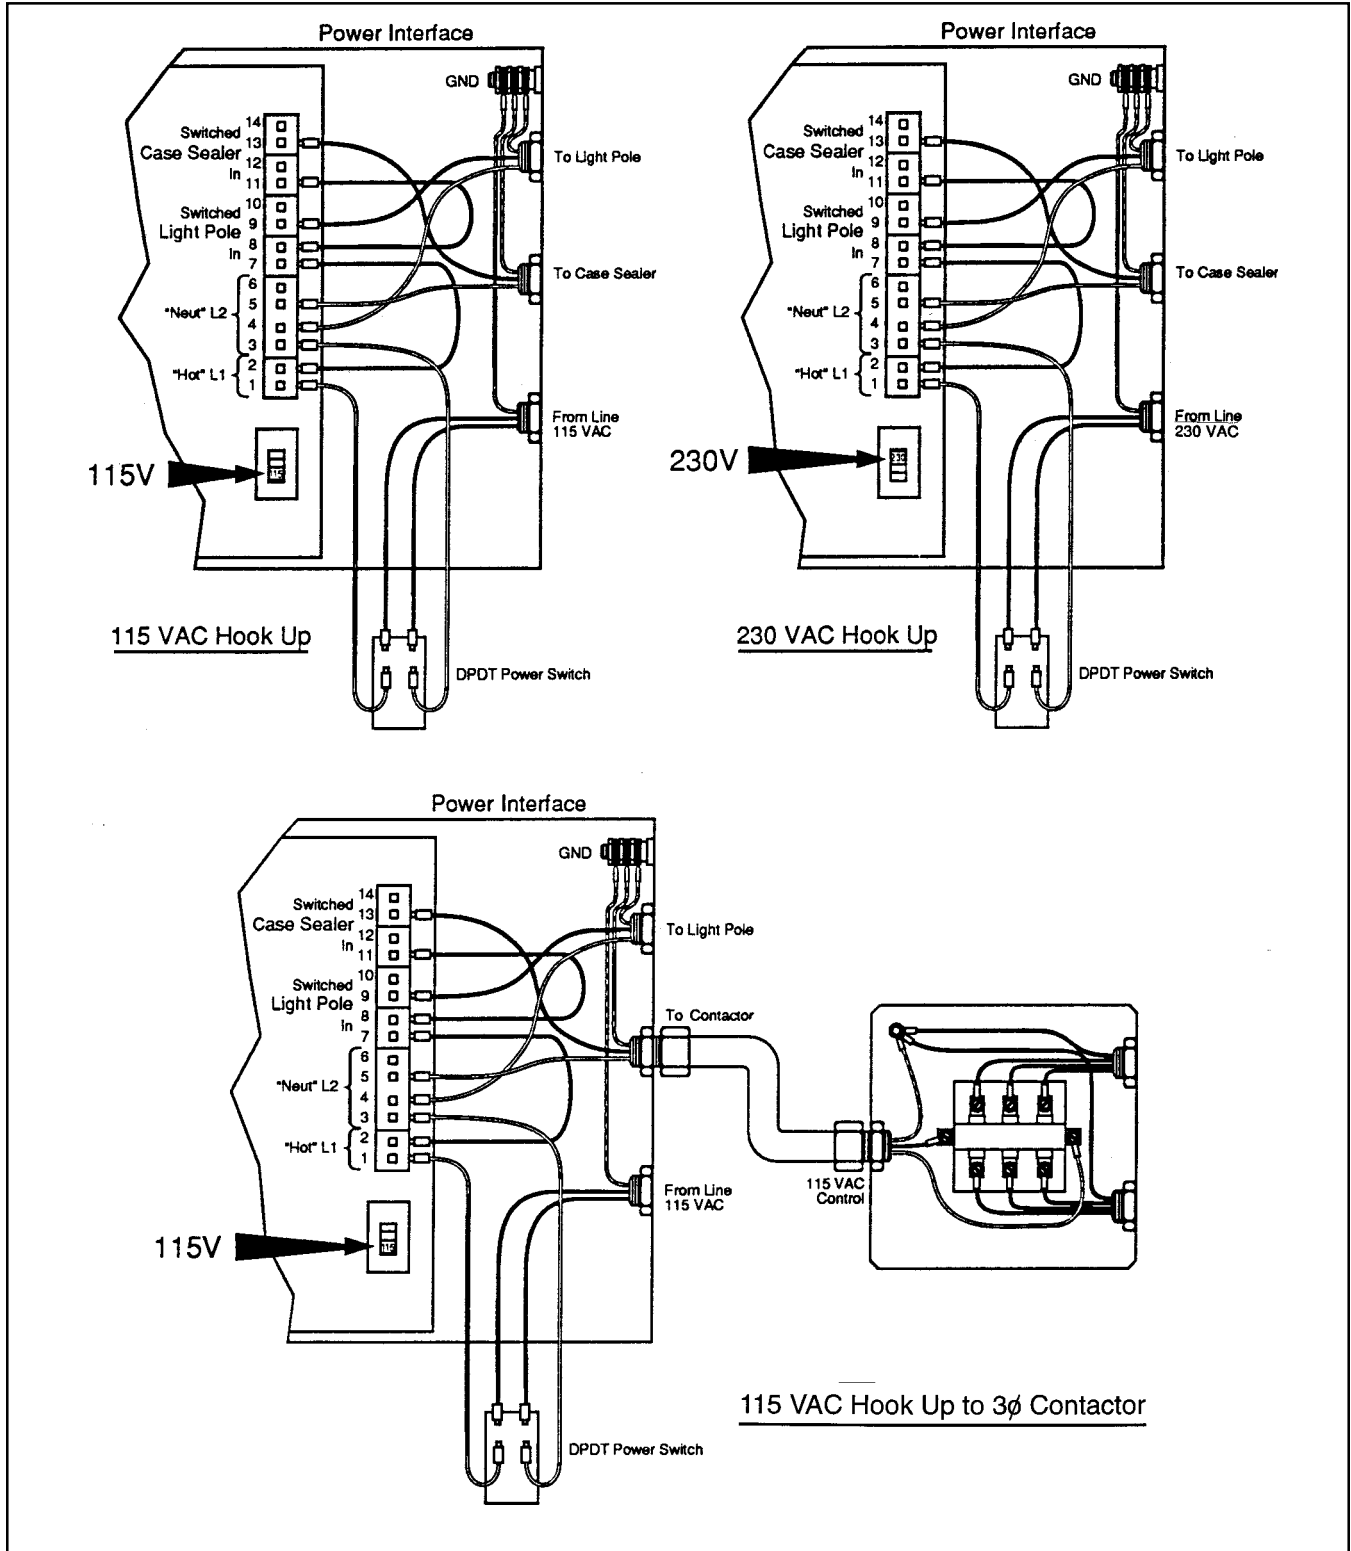

Figure 6-1 – Power Interface
- Running the switched power output to a 3 phase contactor. The contactor can then be used to switch power to the 800rf as shown in Figure 6-1.